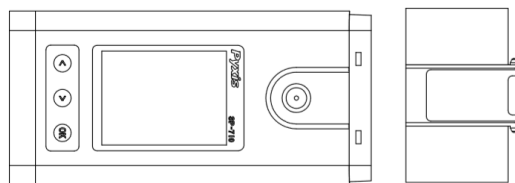

Figure 56.
6. Attach the new pH/ORP module to the main module as shown in Figure 56.